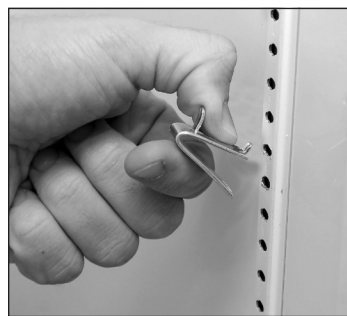

Fig. 6. Installing top tab of shelf clip.
1. Hook the shelf clips into the shelf standards. See fig. 6.